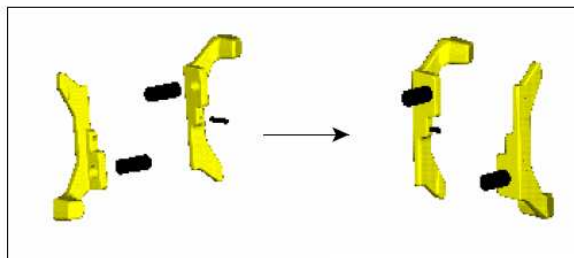

Fig. 6: BWA (unassembled delivery)
- Screw 2 stud bolts into the 2 brackets (Fig. 6).
- Insert shaft in first bracket (Fig. 6).